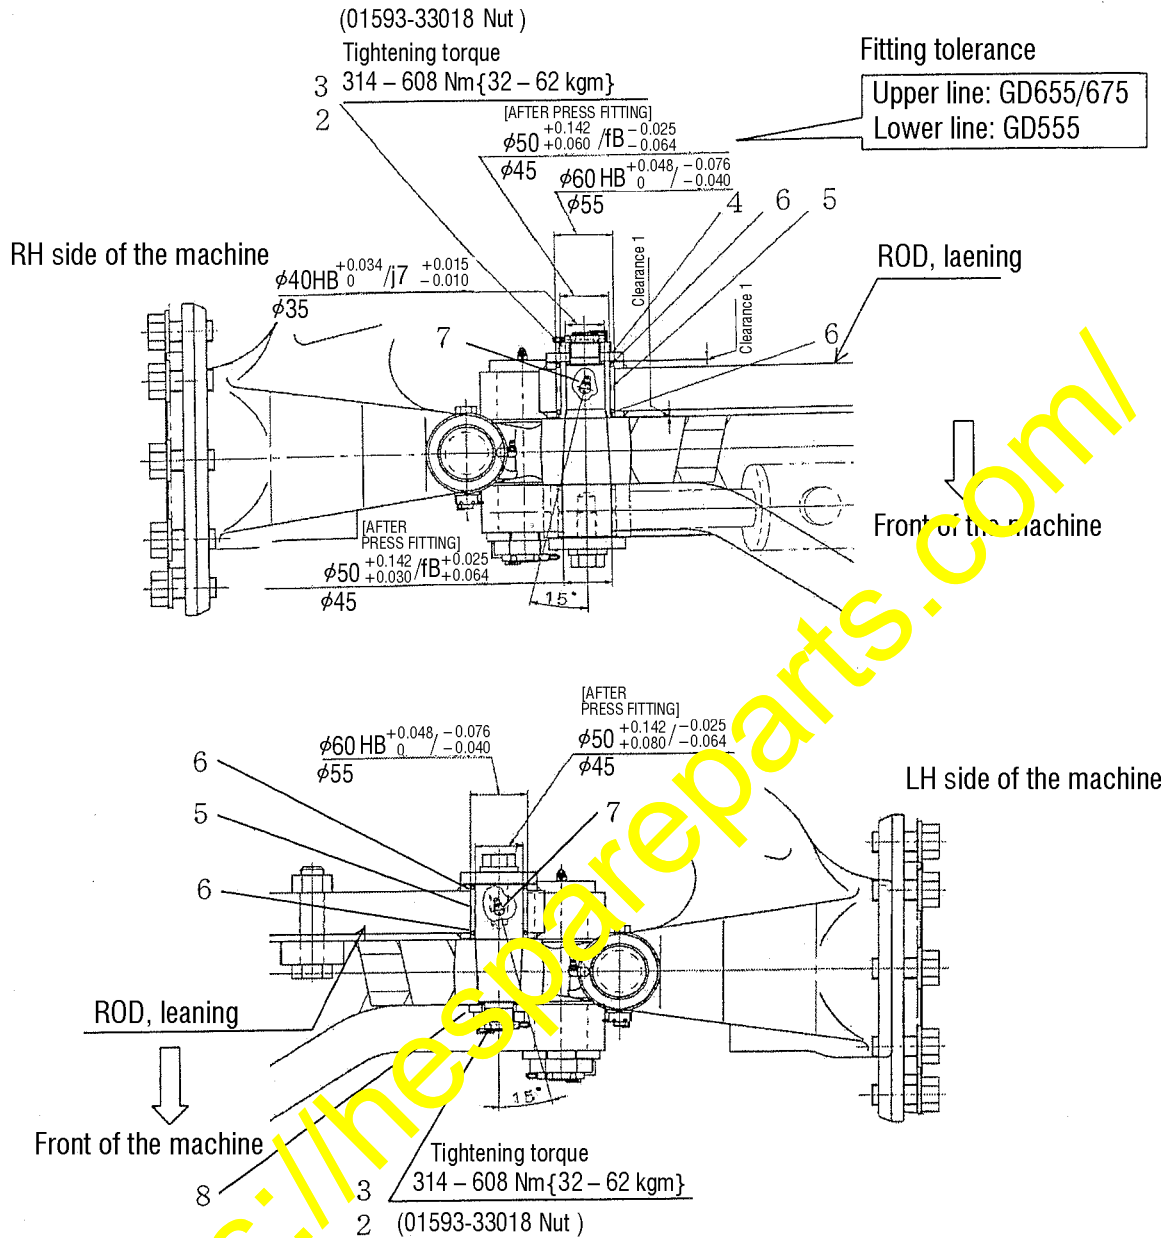

Fig. 2
(3) Install the newly arranged improved leaning rod (1') in the reversed procedure to the removal procedure. (Refer to the Table 1 for the part numbers.)
- Reuse the grease fitting (7) and regarding the direction of installation, refer to Fig. 2.
- Replace the bushing (5), seal (6) and cotter pin with the new parts when carrying out the reinstallation work for the leaning rod. (Part numbers are the same.)
- Refer to Fig. 2 regarding the tightening torque for the nut (3).